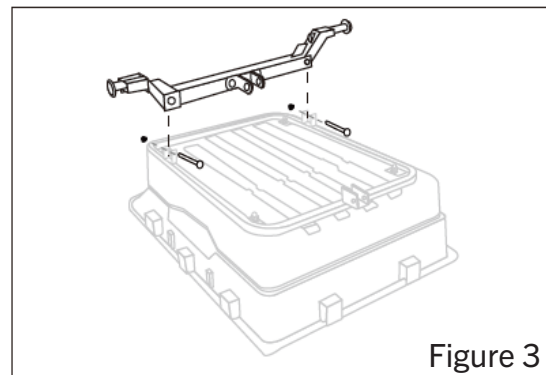

Figure 3
4. Set the axle assembly onto the frame inside the axle mounting brackets. Secure the axle in place using a 3 1/2" carriage bolt, flat washer, lock washer, and hex nut on both sides of the axle assembly. **FIGURE 3**
5. On the front of the axle assembly, align the hitch tube pivot bracket with remaining mounting holes in the axle assembly. On the opposite side of the axle assembly, align the backer plate with the same holes. Secure the bracket and plate through both holes using a 3 1/2" carriage bolt, flat washer, and hex nut. **FIGURE 3**